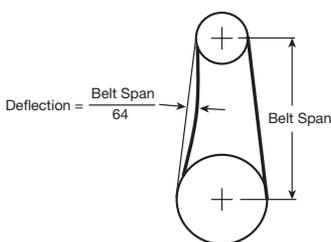

Figure 8
- c. Models 3ATU4, 3ATU5, 3ATU6, 3ATU7, 3ATU8, 3ATU9, 3ATV1, 3ATV2, 3GY73, 3GY74, 4YY18, 4YY19, 4YY20, 4YY21, 4YY22, 5DV07, 5DV08, 6KWK3, 16D526: Belt tension should be adjusted to allow 1/64 inch of deflection per inch of belt span when moderate thumb pressure is applied. See Figure 8.